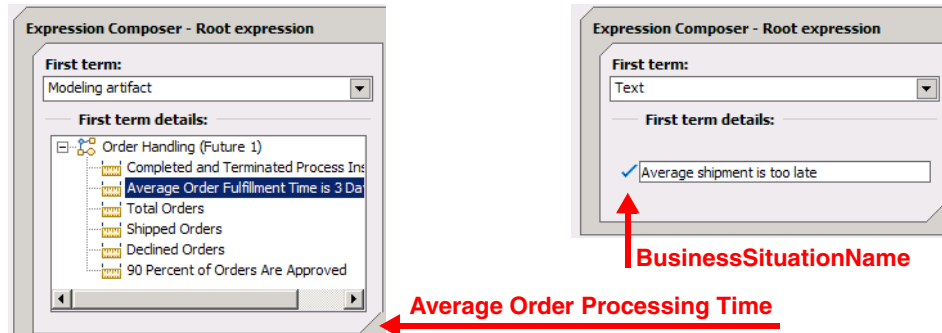

Figure 8-34 Calculating event attribute values
- ▶ To set the values of the event attributes, double-click in the field, then click the  button and use the expression builder to calculate the value (Figure 8-34).